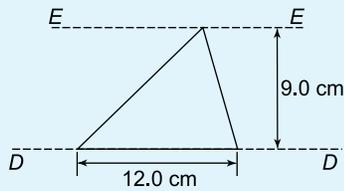

Figure 8.20
- Determine the second moment of area and radius of gyration for the triangle shown in Figure 8.20 about (a) axis *DD* (b) axis *EE*, and (c) an axis through the centroid of the triangle parallel to axis *DD*.